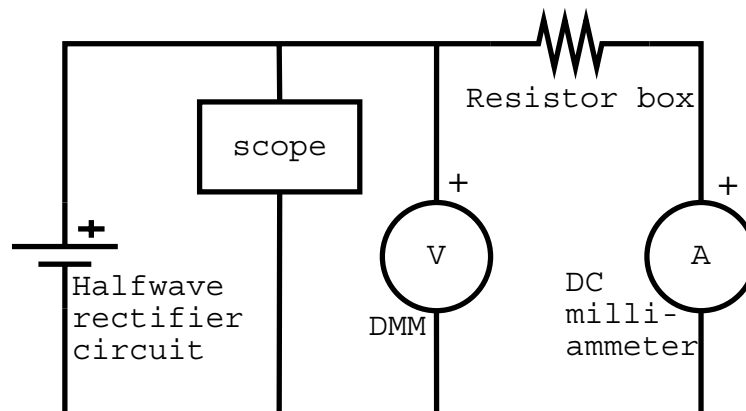

Figure 23: Circuit to determine voltage-current characteristic
Because its output is constant, a rectifier can be used as a DC voltage source. When current is drawn from the rectifier, however, the capacitor loses charge and the voltage decreases. Thus the rectifier is not a well regulated source. Its voltage-current characteristic can be determined using a circuit like that of Figure 23, which is similar to what was used in the voltage sources lab.
3. Add the resistor box (set to $10\text{ k}\Omega$) and the DC milliammeter to your rectifier to obtain the circuit shown in Fig.23. The DC output of your rectifier now serves as a DC power supply.